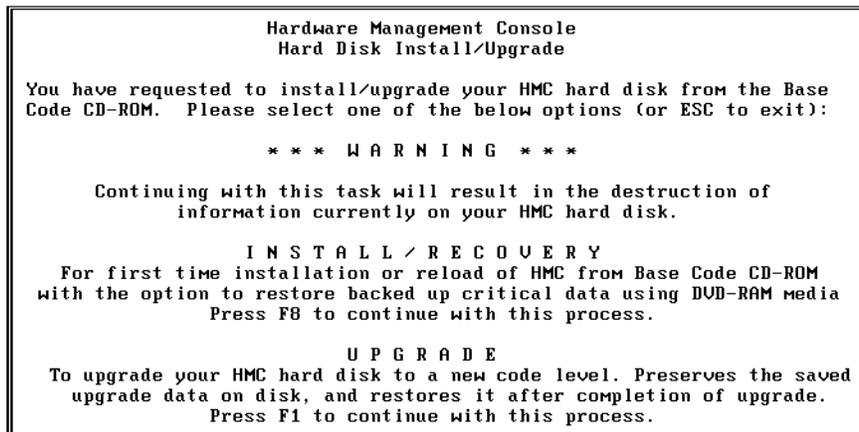

Figure 14-15 HMC Recovery cd set upgrade
4. The HMC boots from the DVD drive and displays the HMC Hard Disk Install/Upgrade screen as shown in Figure 14-15.